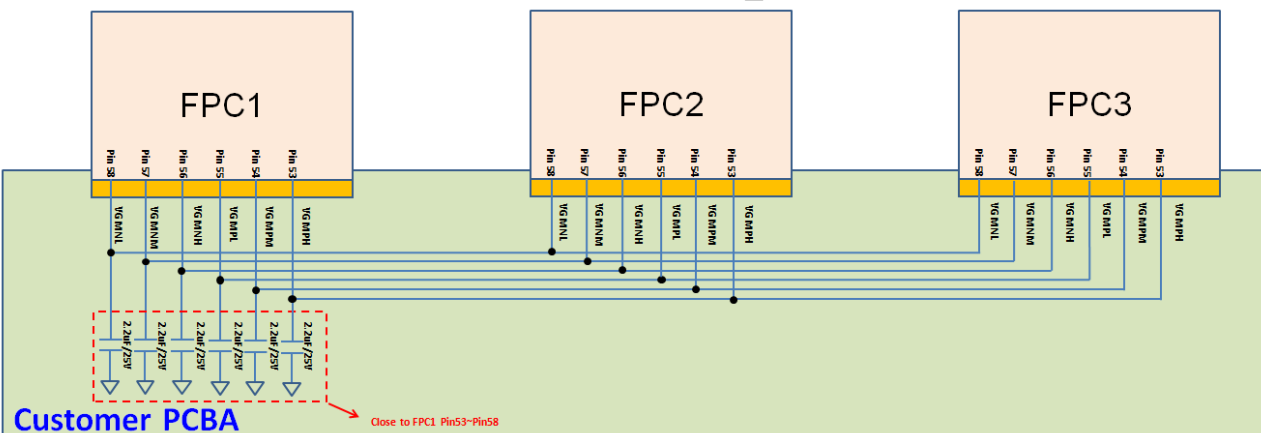

Figure 14: Cascade design for gamma reference voltages
- (1) The gamma reference voltages are provided by internal power (Figure 14) ;
- (2) The capacitors of gamma reference voltages need to be as close to FPC1 as possible (Figure 14) ;